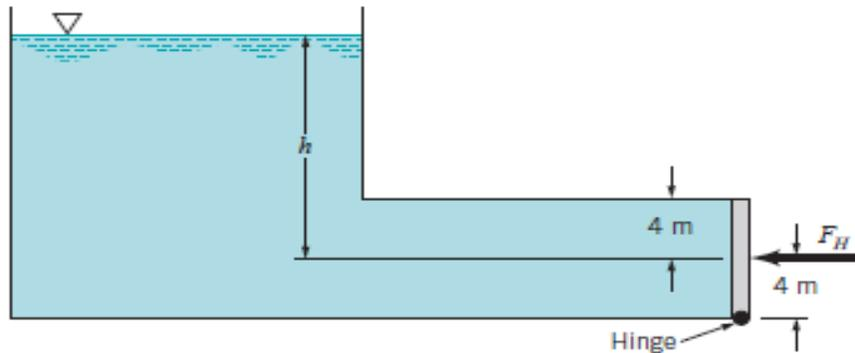

Fig. 12.
14. A 3-m-wide, 8-m-high rectangular gate is located at the end of a rectangular passage that is connected to a large open tank filled with water as shown in Fig. 12. The gate is hinged at its bottom and held closed by a horizontal force, F_H , located at the center of the gate. The maximum value for F_H is 3500 kN (a) Determine the maximum water depth, h , above the center of the gate that can exist without the gate opening. (b) Is the answer the same if the gate is hinged at the top? Explain your answer.